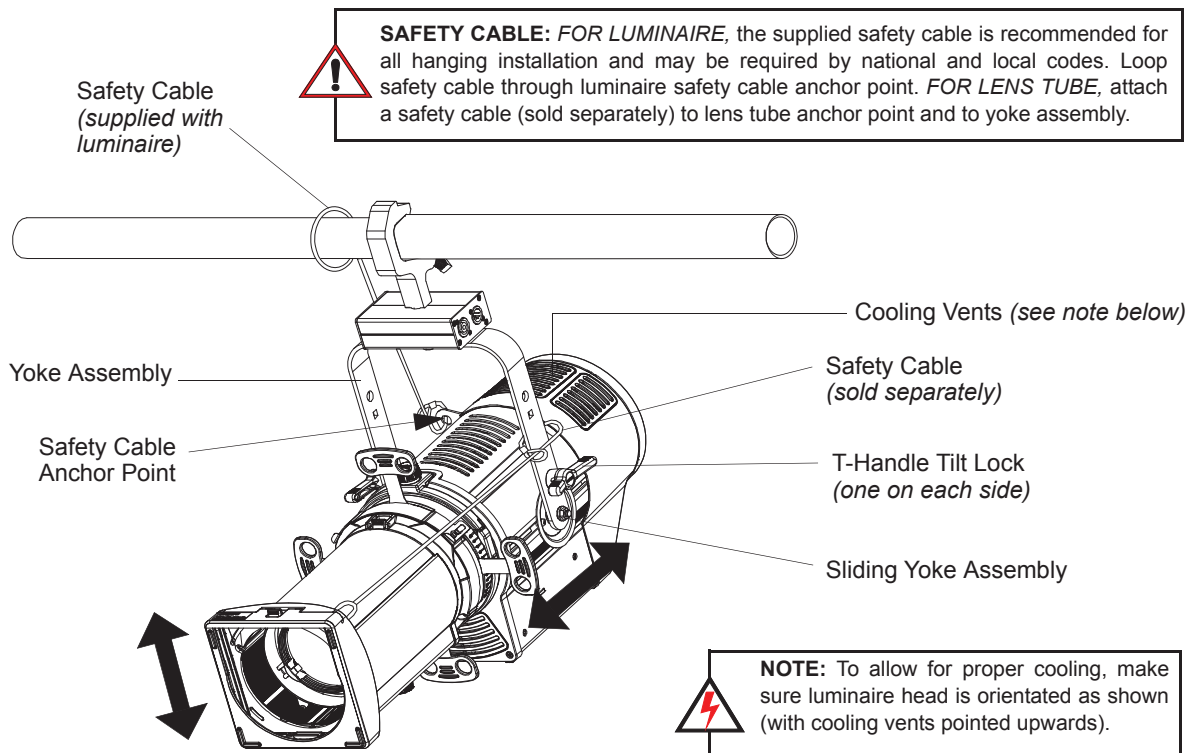

Figure 5: Luminaire Tilt Adjustment
The supplied safety cable **MUST** always be used when rigging luminaires on bars, truss, etc. (as shown in **Figure 5**). The supplied safety cable is recommended for all hanging installation and may be required by national and local codes. Loop or attach safety cable to luminaire safety cable anchor point as shown and attach to structure. You should always consult and follow all local and national codes and regulations for mounting and installation of luminaire.
PLPROFILE4 MKII LED Luminaires offer variable tilt settings. The unit can be set at a specific angle (in relation to its mounting position) or at an angle between 0 to 90 degrees. When the yoke is in the position shown in **Figure 5**, you have full range access to shutters the gate etc. If you flip the yoke over some access is reduced but the over all volume the luminaire takes up is reduced. This is particularly useful in tightly hung lighting positions or in theatres with low grids.
- Step 2. Loosen, but do not remove, T-Handle Tilt Lock at base of yoke assembly as shown in **Figure 5**.
CAUTION: Ensure the lens tube locking catch is fully engaged and safety cable is attached before putting fixture into use. For safety cable attachment, refer to **Figure 5 on page 7** for more information.